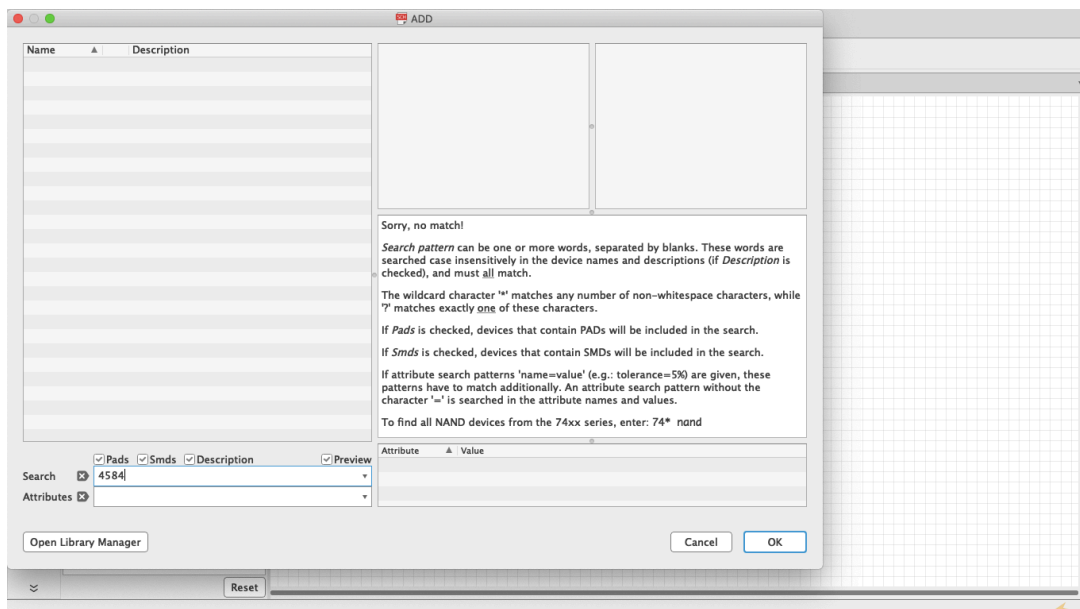
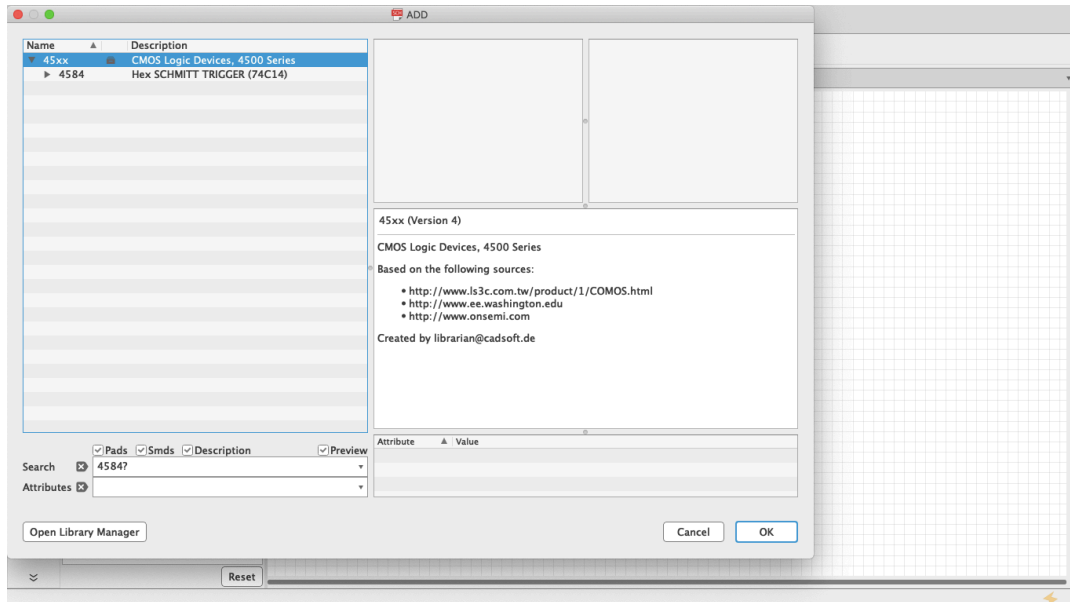
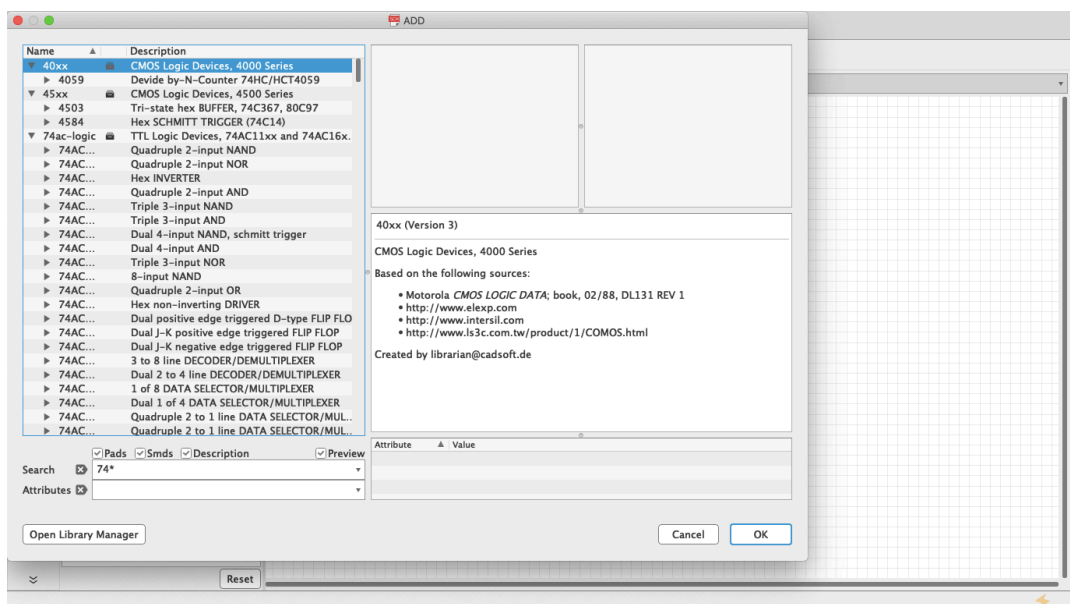

Figure 36 Sorry no match
Figure 37 ? Wildcard
Figure 38 * Wildcard
For our simple synth project, the first thing we need is the Hex Schmitt Trigger we used in our Fritzing tutorial. If you type 4584—which is one of the names the chip goes by—nothing will show up. It will say on the right “Sorry, no match!” (figure 36). But if you search for “4584?” the part will show up because there are two flavors of the same chip each with a different character at the end: D for small outline (SO) package and N for dual in-line (DIL) package (figure 37). Entering “Hex Schmitt Trigger” will reveal more than one part, “74C14” will have the same result as “4584?”, and searching “74*” or “45*” returns long lists (figure 38).